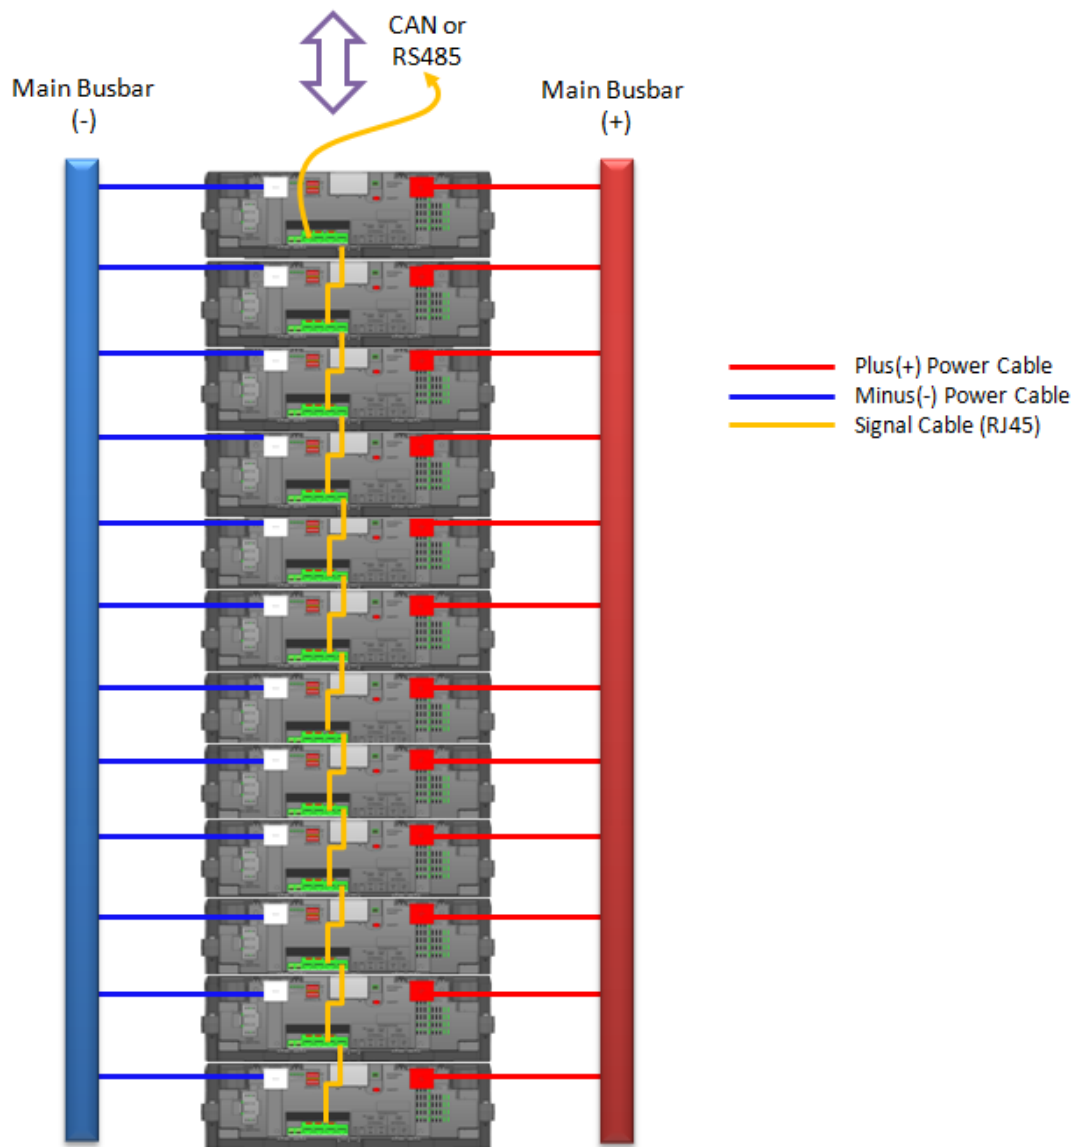

Figure 29 : Fully installed ESS configuration
(4) Replace battery module.
(5) Connect the signal connector and power cable of defective module.
(6) Power ON modules in system. Fully installed ESS is shown as below in Figure 29